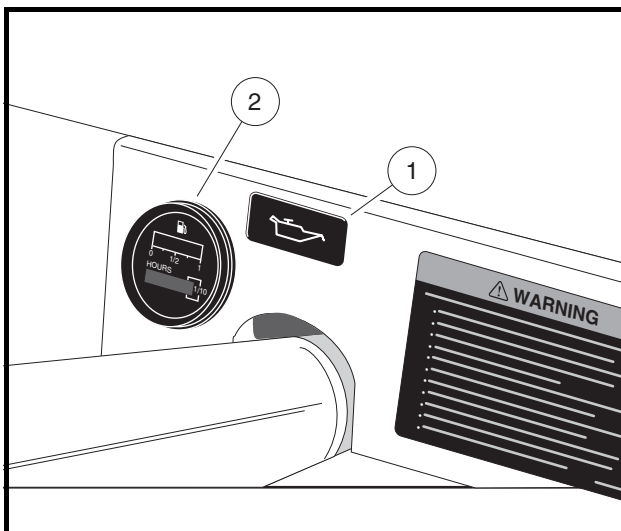

Figure 21 Fuel Gauge/Hour Meter and Low Oil Warning Light
The vehicle is equipped with a low oil warning light (1), located on the dash panel just above the steering column (**Figure 21**). If the warning light comes on, oil should be checked and added to the engine as necessary before continuing to use the vehicle. The vehicle should never be driven when the low oil warning light remains on. If the warning light goes on and off, the vehicle may be driven, but oil should be added at the first opportunity. If the oil level is correct and the warning light stays on, have a trained technician check the vehicle.
The gasoline-powered Club Car vehicle is equipped with a fuel gauge/hour meter (2), located on the dash panel (**Figure 21**). The fuel gauge allows the operator to monitor the fuel level in the vehicle. The hour meter should be used by a trained technician to track vehicle usage and to help determine when periodic service is required. **See Periodic Service Schedules on page 43.**